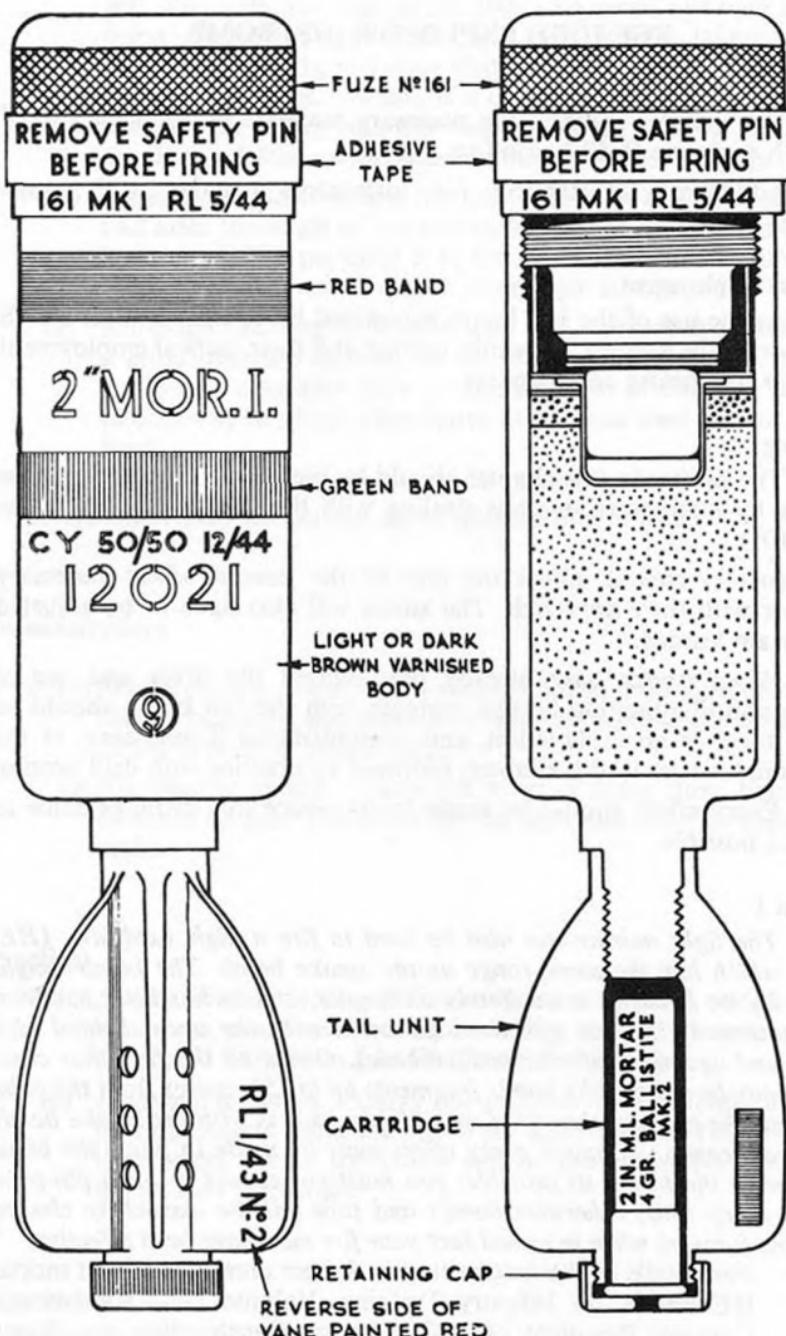

Fig 12.—The HE bomb
89. This chapter contains the necessary material to teach the use of the high explosive (HE) bomb (*see* Fig 12).